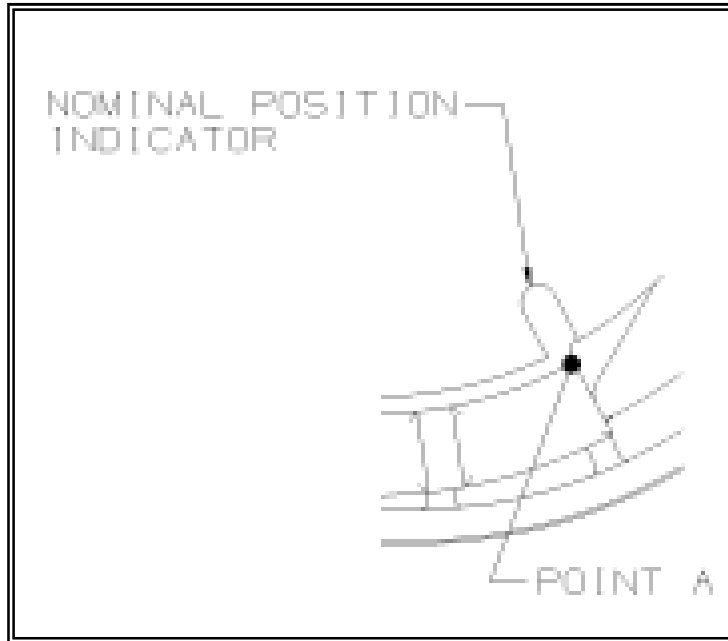

Figure 6: Over-tension the Timing Belt Tensioner
11. Using the installation tool turn the tensioner (TBT) Shaft **counterclockwise only** while preventing the rotation of the mounting nut (see Fig. 5). The tensioner will move against the belt and the Arm Pointer will eventually start to move clockwise. Continue rotating the TBT Shaft until point A in the Arm Pointer aligns with the Nominal Position Indicator on the Base Plate (see Fig. 6).